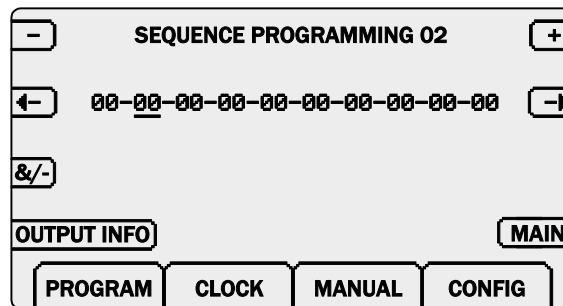

Figure 8: Sequence programming screen
- 2 Up to 10 sequences can be programmed, each containing a maximum of 10 outputs. The sequence is chosen with the + and - keys (Figure 8). The sequence will execute from left to right, use the two arrows to move the cursor along the sequence.
- 4 A “.” between the outputs indicates that the next output will not be executed until the previous has completely finished running. A “&” indicates that the outputs will run simultaneously. Press the “&/-” key (Figure 8) to change the symbol between two outputs. Pumps should not be entered in a sequence; they will be ignored. Pumps are automatically started when programmed as a pump and setup in the PUMP setting of an output (see section 2, page 4).